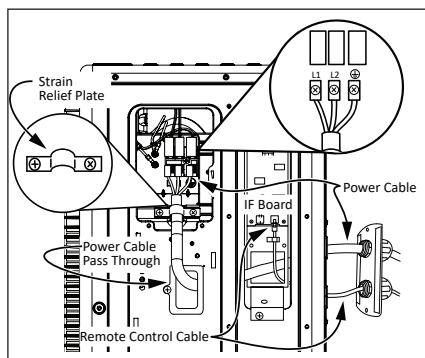

Figure 26 - Connect the power cable and storage tank control cable.
10 After inserting the power and remote cable through the conduit opening. Connect the storage tank control cable to the IF board. See Figure 26. Run the power cable through the power cable pass through. Use a Phillips screwdriver to remove the terminal mounting screws (3). Properly install the wires to the correct terminal and secure the wires in place with the terminal screws, using a Phillips screwdriver. Secure the cable using a water tight strain relief plate. See Figure 26. **NOTICE:** The power cable wires should be properly stripped and properly secure the wires and ensure proper connectivity to the unit.